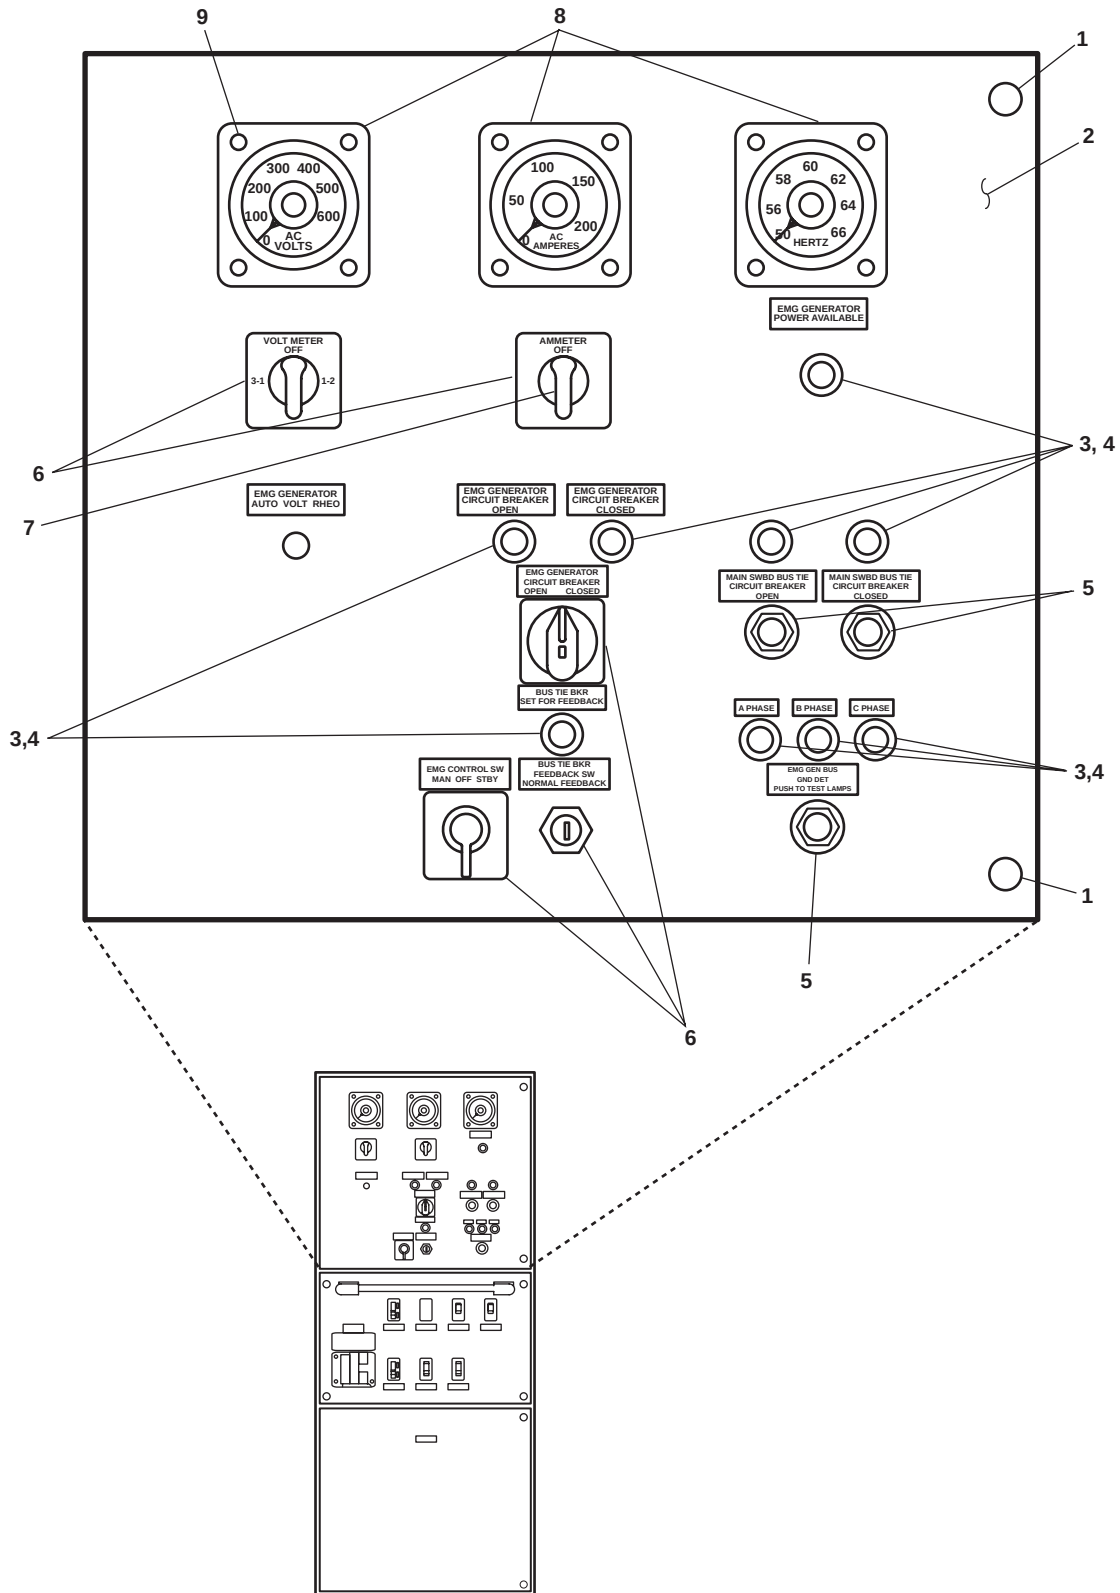

Figure 1. Emergency Switchboard Top Panel
1. Loosen the emergency switchboard door panel captive screws (figure 1, item 1).
2. Open the emergency switchboard door panel (figure 1, item 2).
1. Remove the indicator lens cover (figure 1, item 3) from the emergency switchboard door panel (figure 1, item 2).
2. Remove the incandescent lamp (figure 1, item 4) from the emergency switchboard door panel (figure 1, item 2).
1. Install the incandescent lamp (figure 1, item 4) in the emergency switchboard door panel (figure 1, item 2).
2. Install the indicator lens cover (figure 1, item 3) on the emergency switchboard door panel (figure 1, item 2).
2. Use a multimeter to check for voltage at the pushbutton(s) (figure 1, item 5). If voltage is present, ensure that the proper engine fuel oil valves have been secured, locked out, and tagged out (FM 55-502). If no voltage is present, continue with the procedure.
3. Remove any associated hardware from the pushbutton(s) (figure 1, item 5).
4. Label and disconnect the electrical wiring to the pushbutton(s) (figure 1, item 5).
5. Remove the pushbutton (figure 1, item 5) from the emergency switchboard door panel (figure 1, item 2).
1. Install the pushbutton(s) (figure 1, item 5) in the rear of the emergency switchboard door panel (figure 1, item 2).
2. Install the associated hardware on the pushbutton(s) (figure 1, item 5).
3. Connect the electrical wiring to the pushbutton(s) (figure 1, item 5) using the labels from step 4 of Removal as a guide. Remove the labels.
2. Use a multimeter to check for voltage at the select switch (figure 1, item 6). If voltage is present, ensure that the proper engine fuel oil valves have been secured, locked out, and tagged out (FM 55-502). If no voltage is present, continue with the procedure.
3. Label and disconnect the electrical wiring to the select switch (figure 1, item 6).
4. Remove the knob (figure 1, item 7) and the associated hardware from the select switch (figure 1, item 6).
5. Remove the select switch (figure 1, item 6) from the emergency switchboard door panel (figure 1, item 2).
1. Install the select switch (figure 1, item 6) through the rear of the emergency switchboard door panel (figure 1, item 2).
2. Install the associated hardware and the knob (figure 1, item 7) the select switch (figure 1, item 6).
3. Connect the electrical wiring to the select switch (figure 1, item 6) using the labels from step 3 of Removal as a guide. Remove the labels.
2. Use a multimeter to check for voltage at the meter (figure 1, item 8). If voltage is present, ensure that the proper engine fuel oil valves have been secured, locked out, and tagged out (FM 55-502). If no voltage is present, continue with the procedure.
3. Remove the four screws (figure 1, item 9) from the applicable meter (figure 1, item 8).
4. Label and disconnect the electrical wiring to the meter (figure 1, item 8).
5. Remove any associated hardware attached to the meter (figure 1, item 8).